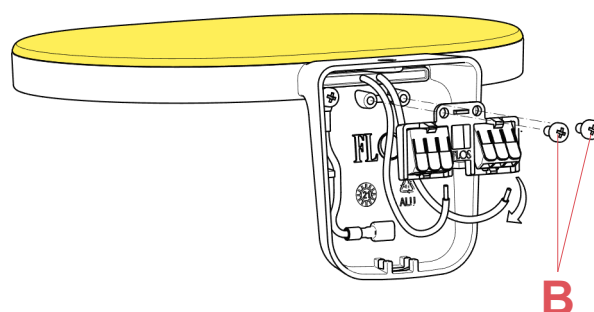

Fig.4
Remove the n° 2 screws (B).(Fig.4)